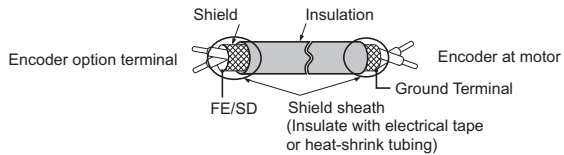

Figure 15 Prepare Ends of Shielded Cable
4. Prepare the wire ends as shown in Figure 15.